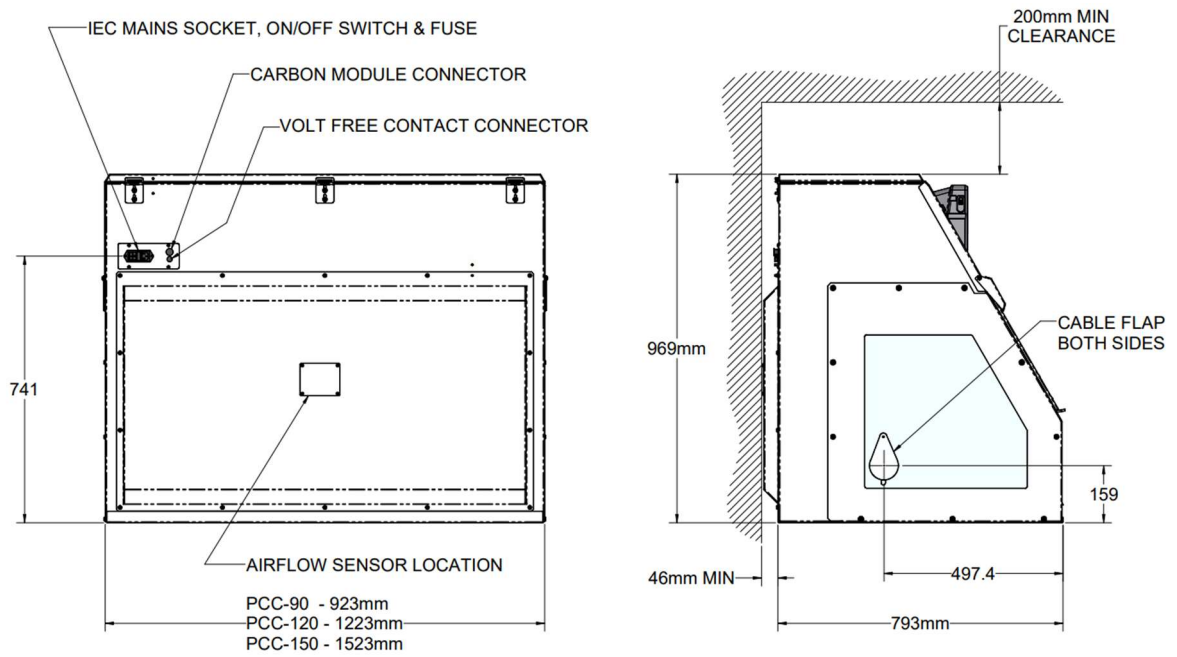

Fig 2.1.1
Once installed Check that the worksurface is level left to right and front to back using a spirit level and adjust where necessary. See Fig 2.1.1, Fig 2.1.2 & Fig 2.1.3 for installation dimensions.
Use the supplied mains cable to connect the unit to the power supply then switch the unit on using the mains switch located at the back of the unit, ref Fig 2.1.1.
- At least 200mm clearance from the top of the unit to the ceiling is required, see Fig 2.1.1.